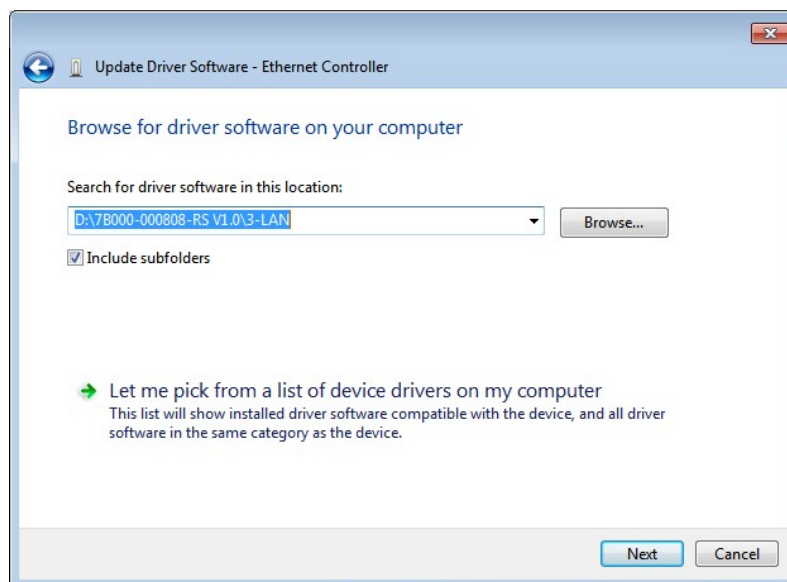

Figure 6-17: Locate Driver Files
Step 9: Click Browse to select "**X:\3-LAN**" directory in the **Locate File** window, where "**X:**" is the system CD drive. (**Figure 6-17**).